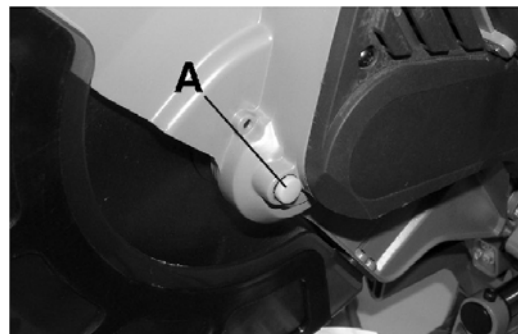

Fig. 16: Fix the saw blade
Step 4: Press locking knob (Pos. A, Fig. 16) and turn the saw blade by hand until it clicks into place.